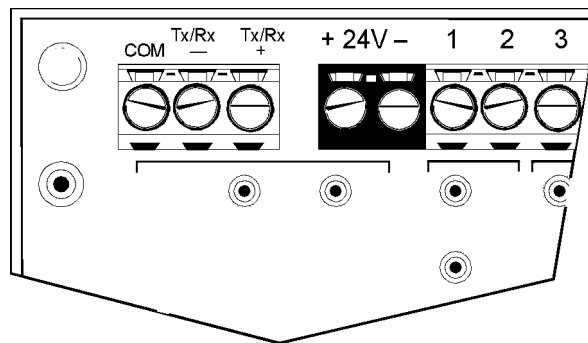

Figure 5: Connecting Power to the G4D32RS
4. Refer to Figure 5 and insert the power supply's "+" wire into the "+24V" terminal and the power supply's "-" wire into the "-24V" terminal. Tighten down each wire by turning the power terminal screw clockwise. Make sure the terminal block is clamping the wire and not the insulation.